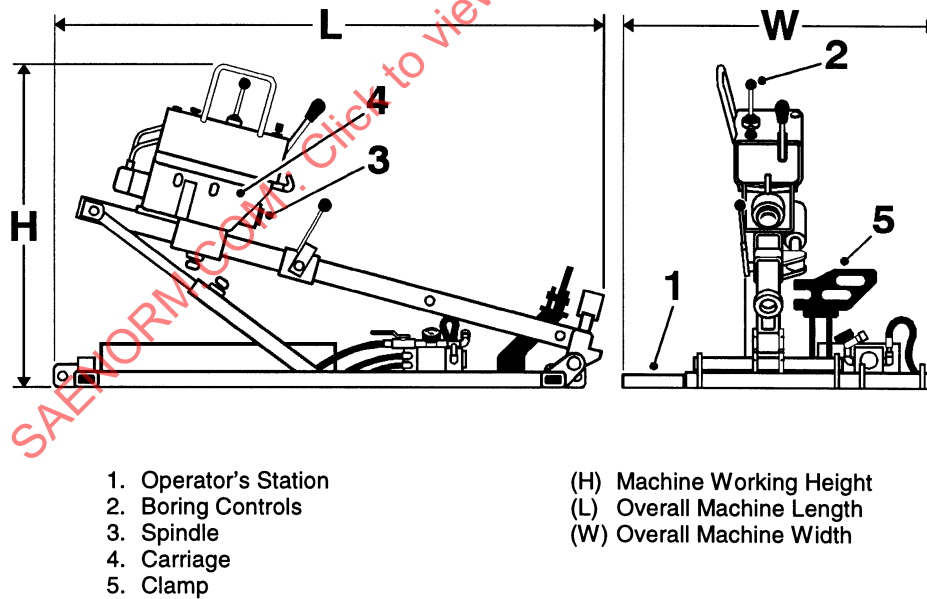

FIGURE 10—ATTACHMENT-MOUNTED MACHINE—(SHOWN IN WORKING POSITION)
4.5.1.4 *Attachment-Mounted Units*—Refer to Figure 10.